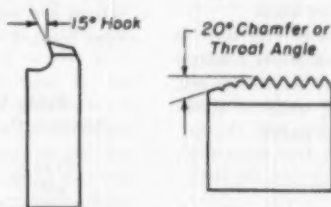

Fig. 8 — Angles for Insert Chasers Used on Stainless Steel
3. Insert type of chaser (Fig. 8) is widely used because it produces very good threads at a low cost. A 20° throat angle is usually recommended.